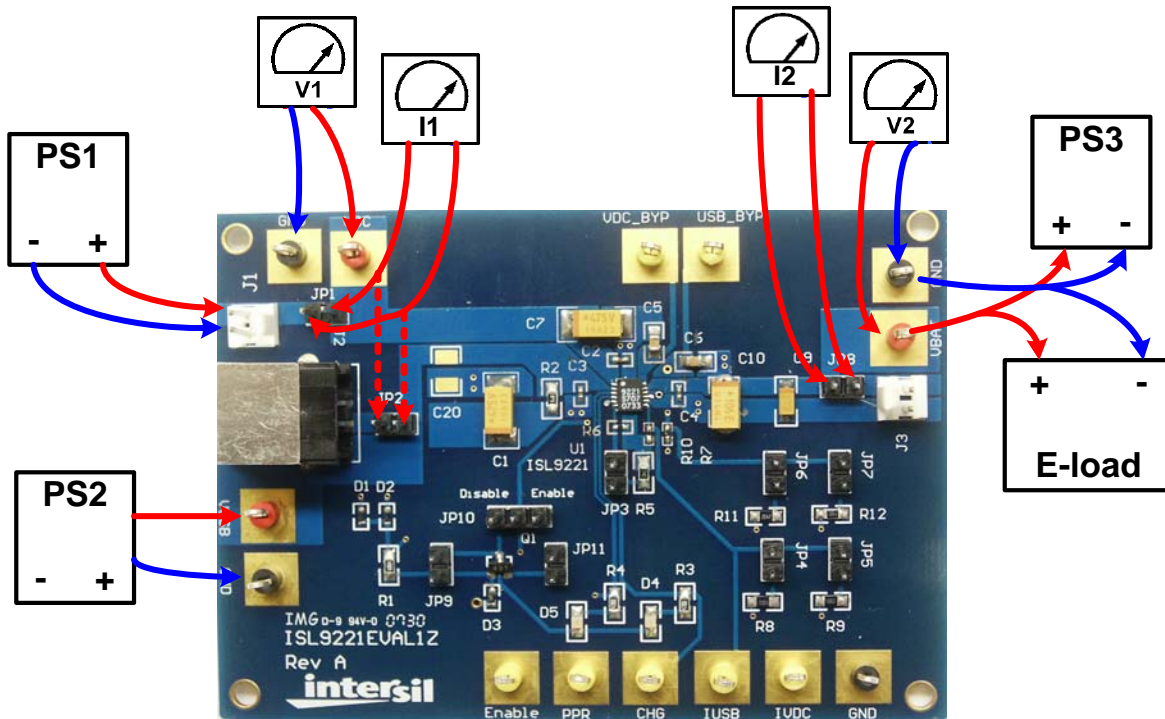

FIGURE 1. CONNECTION OF EQUIPMENT
Quick Setup Guide (Refer to Figure 1)
- Step 3:** Connect a current meter to JP8 as shown in Figure 1
- Step 4:** Connect a current meter to JP8 as shown in Figure 1.
JP1 - A shunt installed on JP1 connects the input source from connector J1 to the circuit if input current measurement is not needed. The shunt can be replaced by a current meter if input current measurement is needed, as shown in Figure 1.
JP8 - A shunt installed on JP6 connects the BAT pin to the output connector J3 if output current measurement is not needed. The shunt can be replaced by a current meter if output current measurement is needed, as shown in Figure 1.